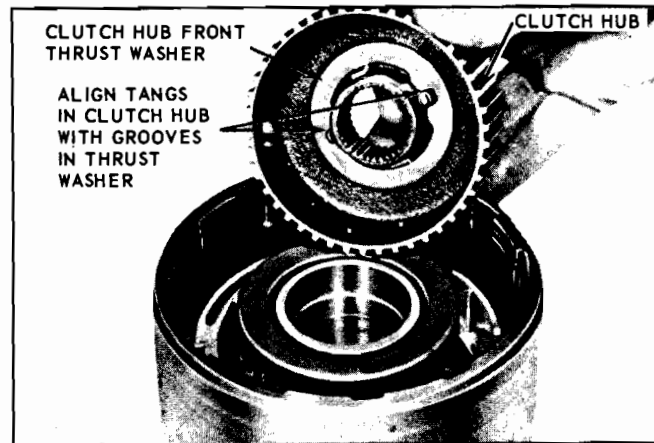

Fig. 7F-58 Installing Clutch Hub Front Thrust Washer
8. Install steel driven plates and faced drive plates alternately, beginning with a steel driven plate (Fig. 7F-59).